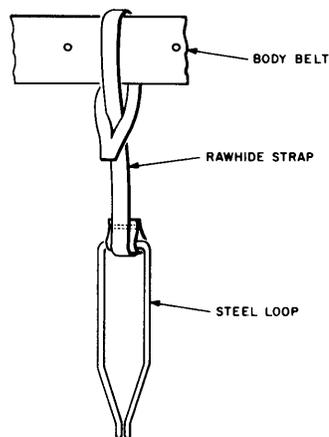

Fig. 1 - B Handline Carrier
- 2.04 When necessary to carry the handline up a pole or ladder, secure one end of the handline to the B handline carrier (Fig. 1). The steel loop of the B handline carrier is designed to release the handline if it is placed under tension. If a B handline carrier is not available, double the end of the handline back on itself and place the loop under the side or back of the body belt, so it will be readily released when placed under tension.